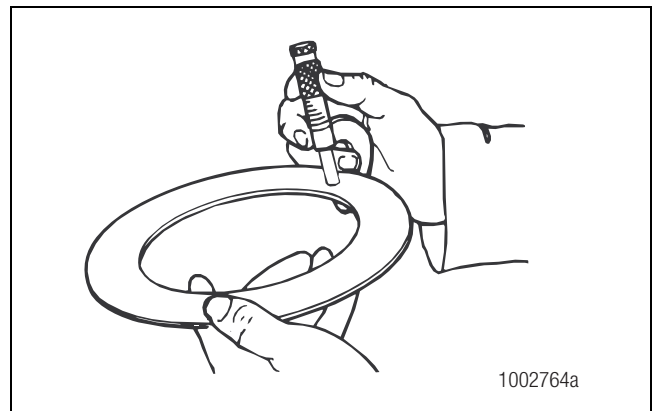

Figure 5.2
1. Use a micrometer to measure the thickness of the shim pack that was removed from the differential carrier. Record the measurement. Figure 5.2.